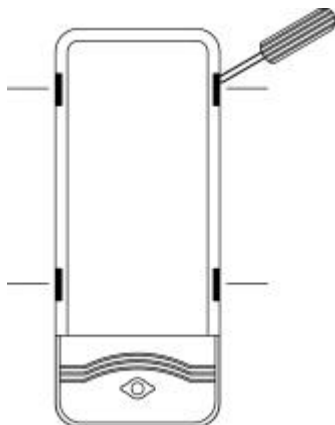

FIGURE 3
- (1) Switch off the power source or wall switch.
- (2) Use a flat screwdriver to hinge off the lamp shade from its bottom housing (FIGURE 3).